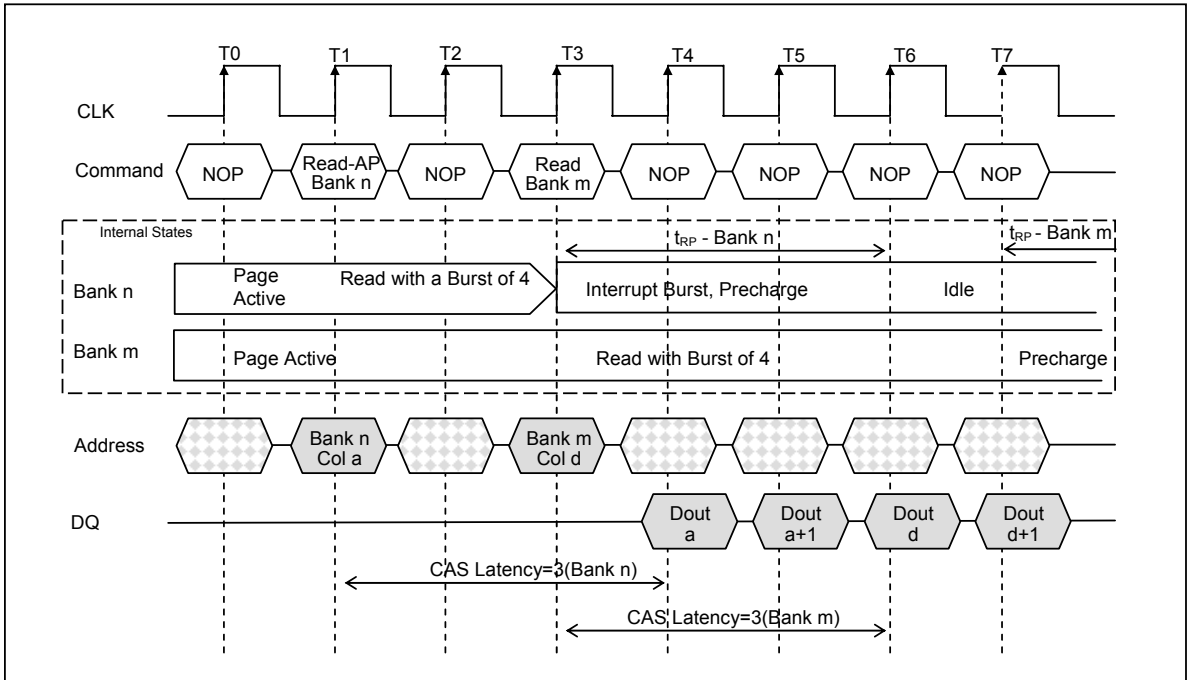

Figure 25. Read with Auto Precharge Interrupted by a Read(CAS Latency =3)
1. Interrupted by a Read (with or without auto precharge): A read to bank m will interrupt a Read on bank n, CAS latency later. The precharge to bank n will begin when the Read to bank m is registered. (Figure 25. )